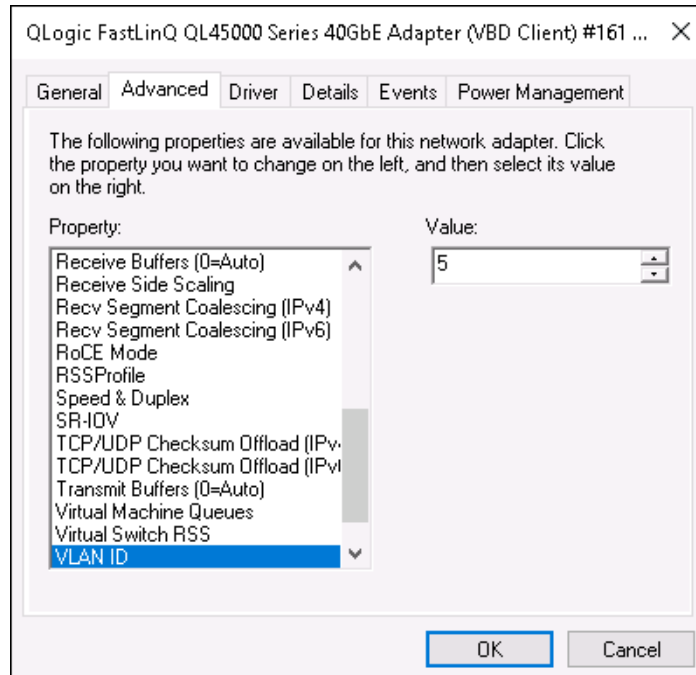

Figure 9-12. Advanced Properties: Setting VLAN ID
- b. On the adapter's Advanced Properties page (Figure 9-12) under **Property**, select **VLAN ID**, and then set the value.